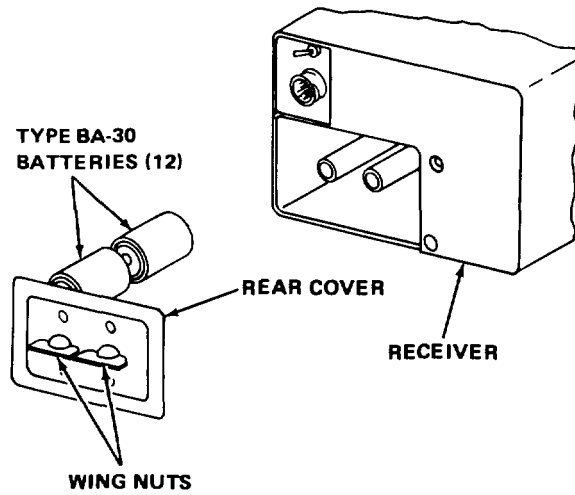

Figure 2-8. Radio Receiver R-1218/UR and R-1518/UR Battery Compartment (Typical Rear View)
(1) Set the FUNCTION switch to OFF. Remove rear battery compartment cover as shown in figure 2-8.
(2) Remove discharged batteries. Dispose of discharged nonrechargeable BA-30 batteries. Save discharged rechargeable batteries (not normally used).